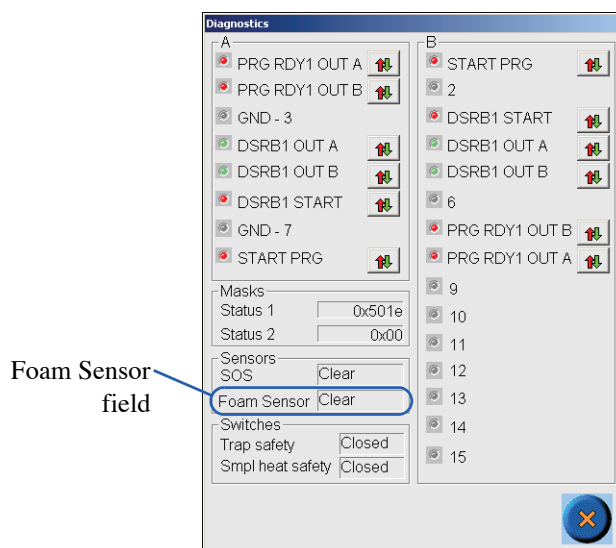

Figure 9.4. Diagnostics dialog box
- Press the **Maint** icon to access the Maintenance screen. Press **Diagnostics** to access the Diagnostics dialog box (Figure 9.4).